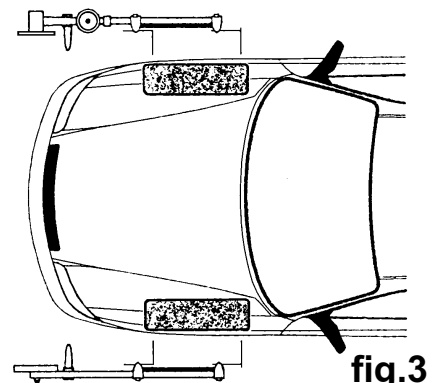

fig.3
- 4.8 Now set up the two parts of the gauge as shown in fig.3 and hold down the laser switch to turn it on. ( The beam turns off again when the switch is released). Take hold of the pointer arm between the graduated scale and the circular calculator and move it until the laser beam is on the centre line of the target plate. The graduated scale will now show the amount of toe-in or toe-out in degrees and minutes. Each division of the scale represents 10 minutes.